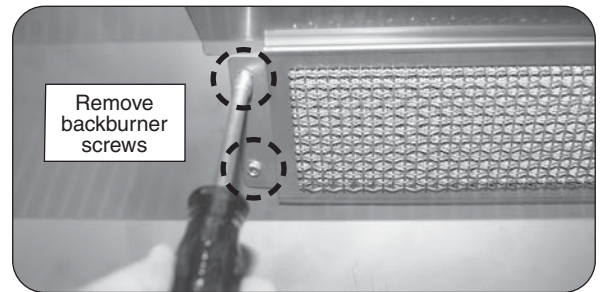

**Fig. 36-2 Remove electrode**
1. Remove the backburner electrode mounting screw (1/4" hex) (see Fig. 36-2, A) and loosen the electrode. Carefully pull the electrode assembly slightly from the grill wall to give enough clearance for the backburner to be removed (see Fig. 36-2, B).